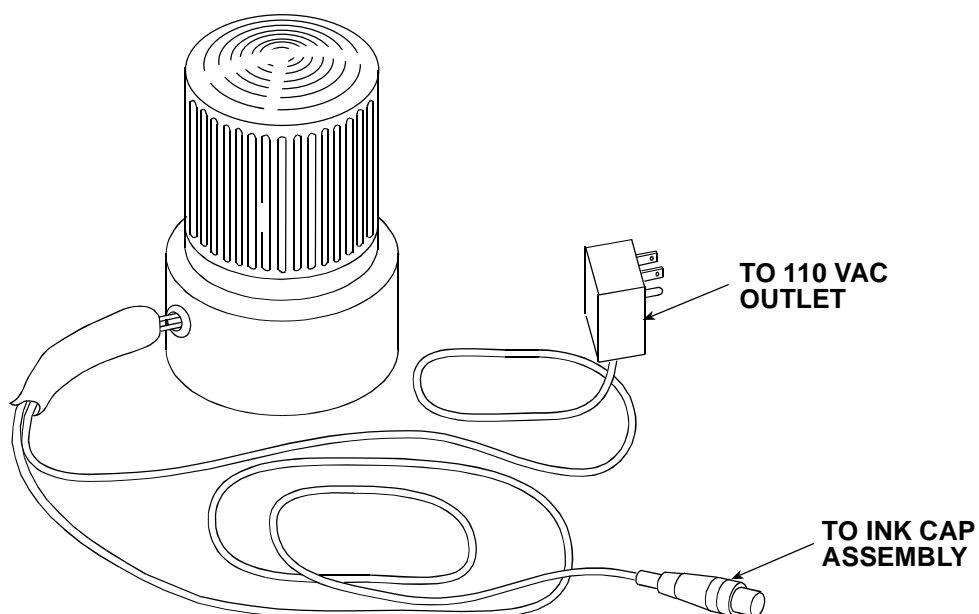

Figure 10 Strobe Light Assembly (1902-842)
- 1902-842 low ink strobe light assembly (*Fig. 10*)